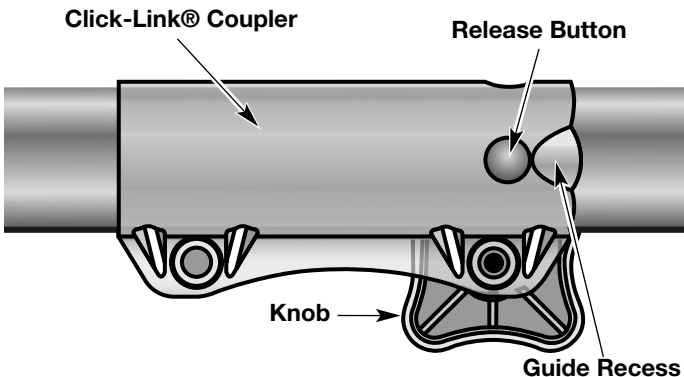

Fig. 24
1. Turn the knob counterclockwise to loosen (Fig. 24).
2. Press and hold the release button (Fig. 24).
1. Turn knob counterclockwise to loosen (Fig.24).
NOTE: Aligning the release button with the guide recess will help installation (Fig. 24).